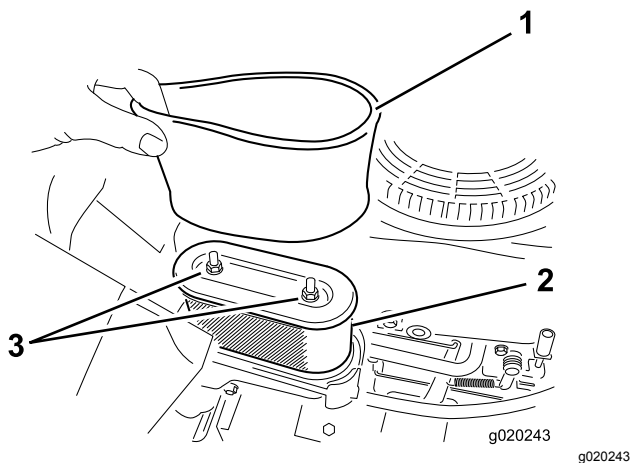

Figure 38
5. Carefully remove the foam and paper filter elements from the air-cleaner housing (Figure 38).
Note: If it is very dirty, replace the paper element (Figure 38).
1. Install the foam filter onto the paper filter (Figure 38).